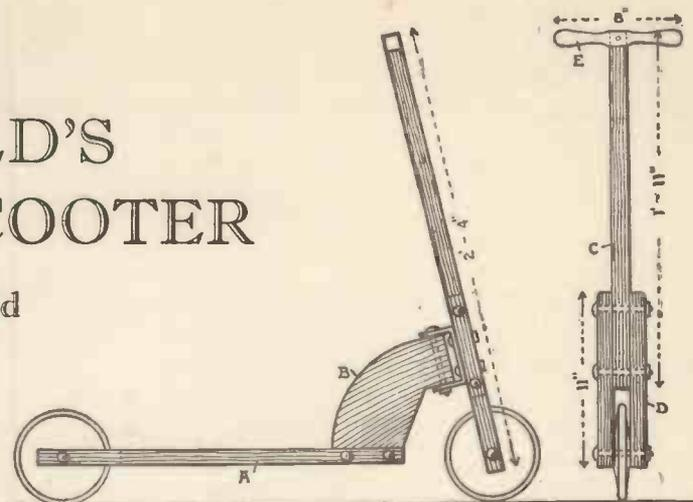

Fig. 1.—A Side and Front Elevation of the Scooter.
Material and Method of Construction.—For a toy of this kind hardwood is essential, and suitable kinds are birch, elm, ash, or oak, not less than 1 in. thick. The scooter, side and front elevations of which are shown at Fig. 1, is made with a running-board (A), to the front end of which a neck piece (B) is fitted. The steering-handle and front fork is made with a centre shaft (C), the fork for the front wheel being formed by bolting two extension pieces (D), one on each side of the centre shaft at the bottom end, and the steering-handle (E) is mortised to the top end.